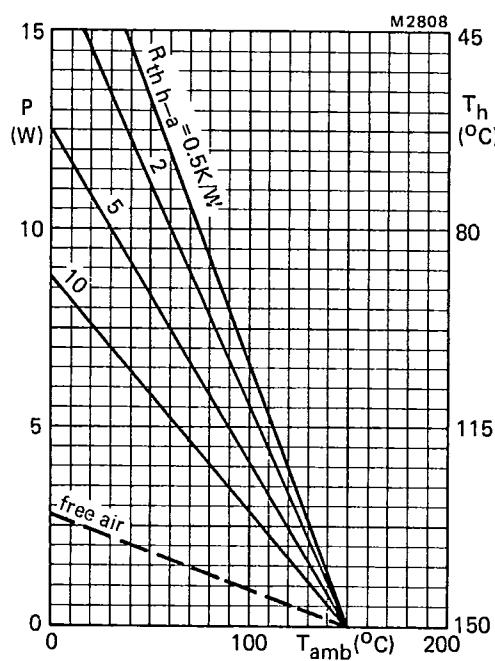
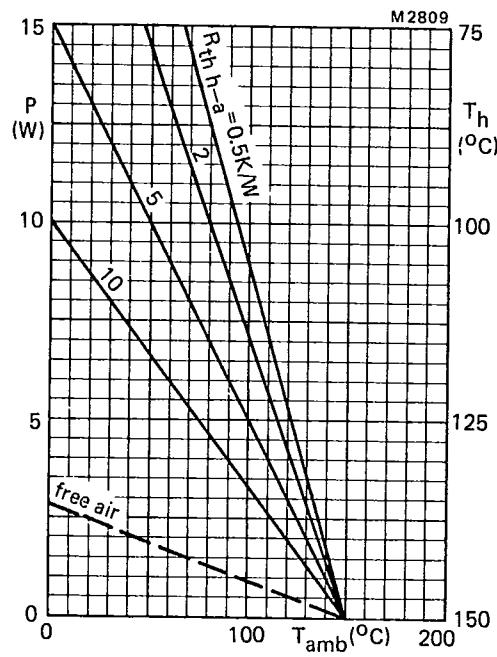

Fig.7 Heatsink rating.
Fig.8 Heatsink rating.
Having determined this power (P), use Fig.7 (if heatsink compound is not being used) or Fig.8 (if heatsink compound is being used) to determine the heatsink size and corresponding maximum ambient and heatsink temperatures.